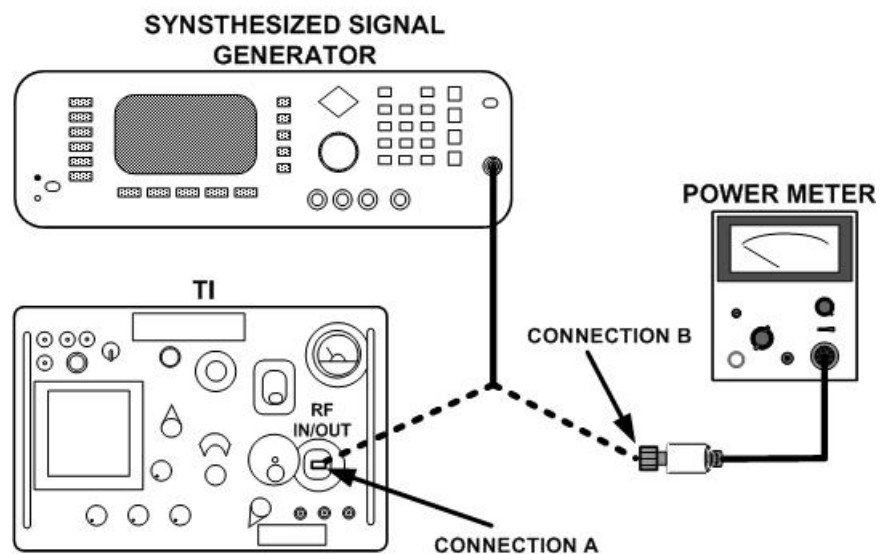

Figure 2. Input - equipment setup.
(1) Set **TRAN/TEST/RCV** switch to **TRAN** and adjust **SET ZERO COARSE** and **FINE** controls to obtain **SET ZERO** indication on **SET POWER** meter.
(2) Connect equipment as shown in figure 2, connection A.
(3) Adjust controls of synthesized signal generator for CW operation at **8.5 GHz** (15.8 GHz) and power level for an on-scale indication on **SET POWER** meter.
(4) Set **DBM** control to **+7 dBm** and adjust synthesized signal generator power output until **SET POWER** meter indicates **SET POWER**.
(5) Connect equipment as shown in figure 2, connection B. Power meter indication will be between +5.5 and +8.5 dBm.
(6) Repeat technique (1) through (5) for highest possible level allowed by synthesized signal generator or cardinal point on TI dBm dial (whichever is possible).
(7) Repeat technique of (1) through (6) above at frequencies of 9.05 and 9.60 GHz (16.35 and 16.9 GHz).